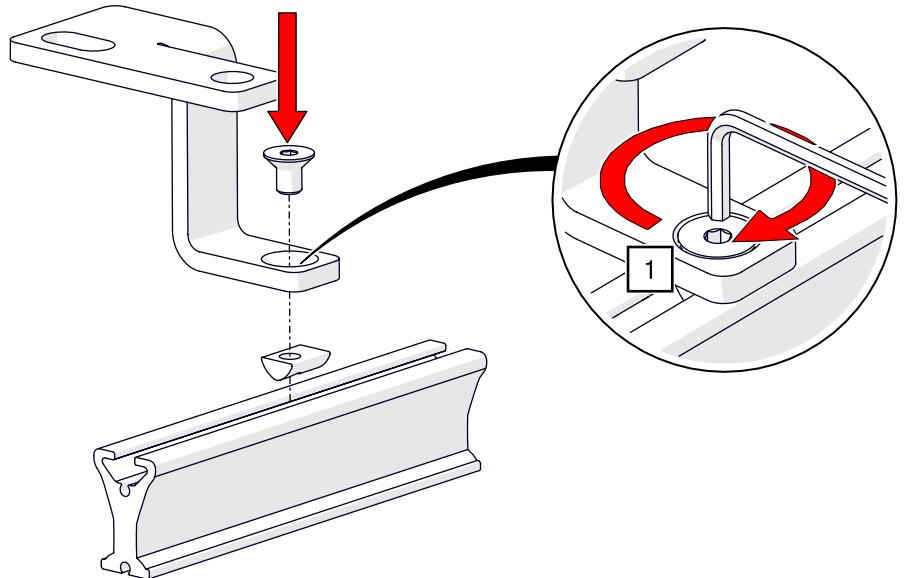

Fig. 40: Mounting the cord guide – Assembly with slot nut
1. Mount the cord guide plate with the slot nut and hex key AF 3 to the track (see Fig. 40).